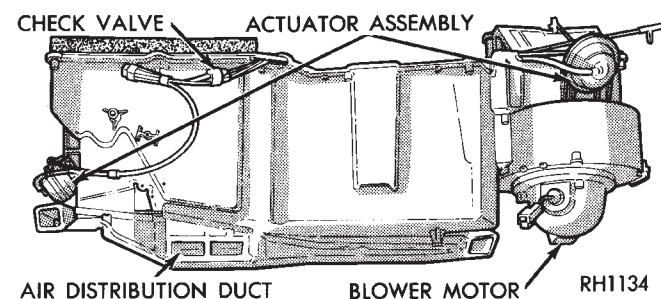

Fig. 19 Heater/A/C Assembly
(1) Place heater/A/C unit assembly (Fig. 19) on workbench.